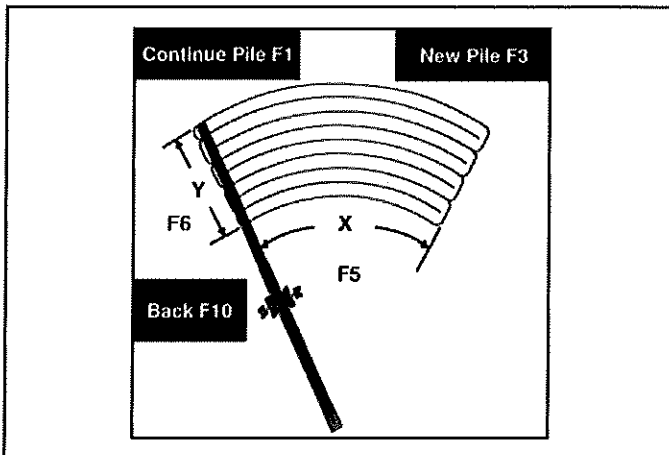

Figure 64
- a. Press screen **F5** or **[F5]** to adjust radial arc distance (X) (Figure 64).
- c. Press screen **F6** or **[F6]** to adjust extension distance (Y) (Figure 64).
- e. Press screen **F3** or **[F3]** to proceed with your new pile parameters or press screen **F1** or **[F1]** to accept to a previous enter pile (Figure 64).